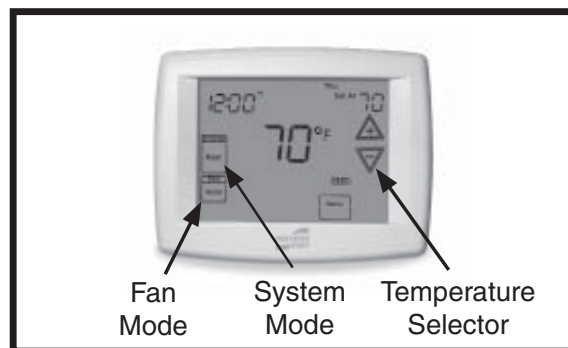

Figure 1. Digital Thermostat
1. Set the thermostat's system mode to COOL or AUTO and change the fan mode to AUTO. See Figure 1
1. Set the thermostat's system mode to HEAT or AUTO and change the fan mode to AUTO. See Figure 1.
Change the thermostat's system mode to OFF and the fan mode to AUTO (See Figure 1). **NOTE:** The system will not operate, regardless of the temperature selector setting.